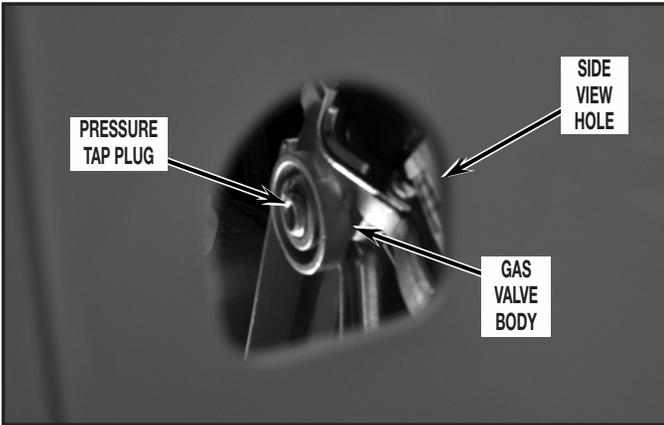

FIGURE 5
21. View through the hole on the right side panel inspecting for leaks indicated by growing bubbles. See *Figure 5*.